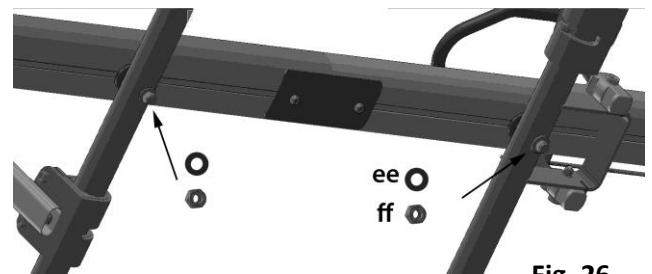

Fig. 26
**Per Fig 26:** Install washer **e-e** and nut **f-f** onto bolts. Tighten using wrench **d-d** (or small adjustable, 1/2" or 13mm). **Per Fig 27:** Repeat installation for second wheel tray. **Trays should be centered on rack.**